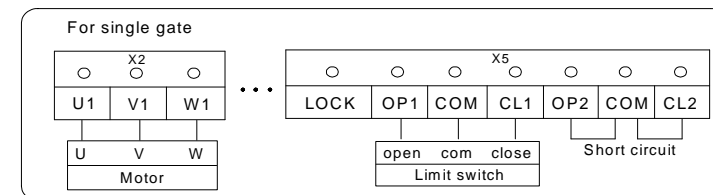

Fig.27
**Note:** Use operator with single gate, connect motor to 'U1', 'V1', 'W1', connect limit switch to 'OP1', 'COM', 'CL1', it is important to short the 'OP2' and 'COM', 'CL2' and 'COM' terminal with the jumper wires. See Fig.27.